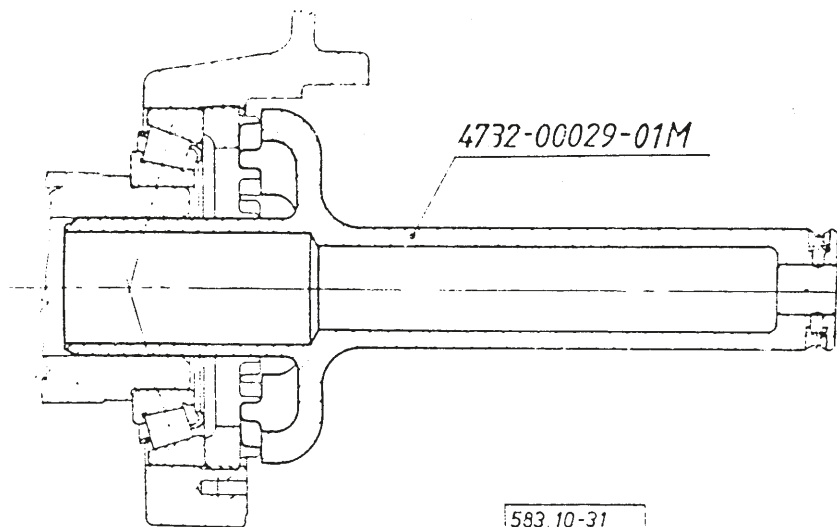

Fig. 1.: ASSEMBLING THE BEARING ADJUSTERS
shown remove the bearing adjusters (20) from both sides (see Fig. 1.).